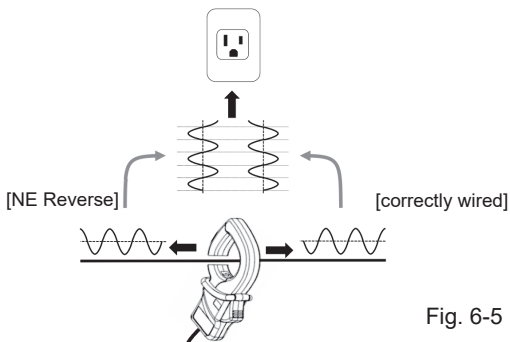

Fig. 6-5
- As shown in Fig. 6-5, the phase of test voltage applied to a neutral wire (N) changes 180-degree depending on the orientation of the test voltage injection clamp. KEW 4506 performs socket test based on the polarity (phase difference) of the test voltage signal; therefore, if the orientation of test voltage injection clamp is incorrect, KEW 4506 judges as [NE Reverse] even if the tested socket is correctly wired.
Depending on the orientation of the test voltage injection clamp, as explained with Fig. 6-5 at the previous clause, KEW 4506 may judge as [NE Reverse] even if the outlet is correctly wired as shown in Fig. 6-15 (outlet wired to branch circuit breaker [B]). Connect the test voltage injection clamp to the appropriate neutral wire (N) of the branch circuit breaker with the correct orientation and location.